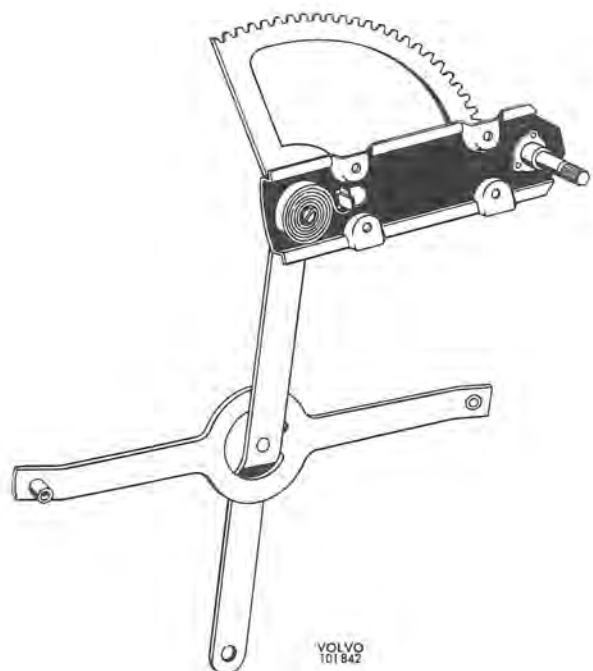

Fig. 8-18. Winding mechanism
6. Remove the attaching screws for the window winder, see Fig. 8-9, and remove it from the door, see Fig. 8-18.
When replacing the spring support, the lid is first opened fully. It is then lowered slightly and clamp SVO 2739 applied and the lid opened fully again, after which the spring support can be removed. When fitting a new spring support press tool SVO 2744 is used as shown in Fig. 8-18 in order to enable clamp SVO 2739 to be fitted. Installing is done in the reverse order.